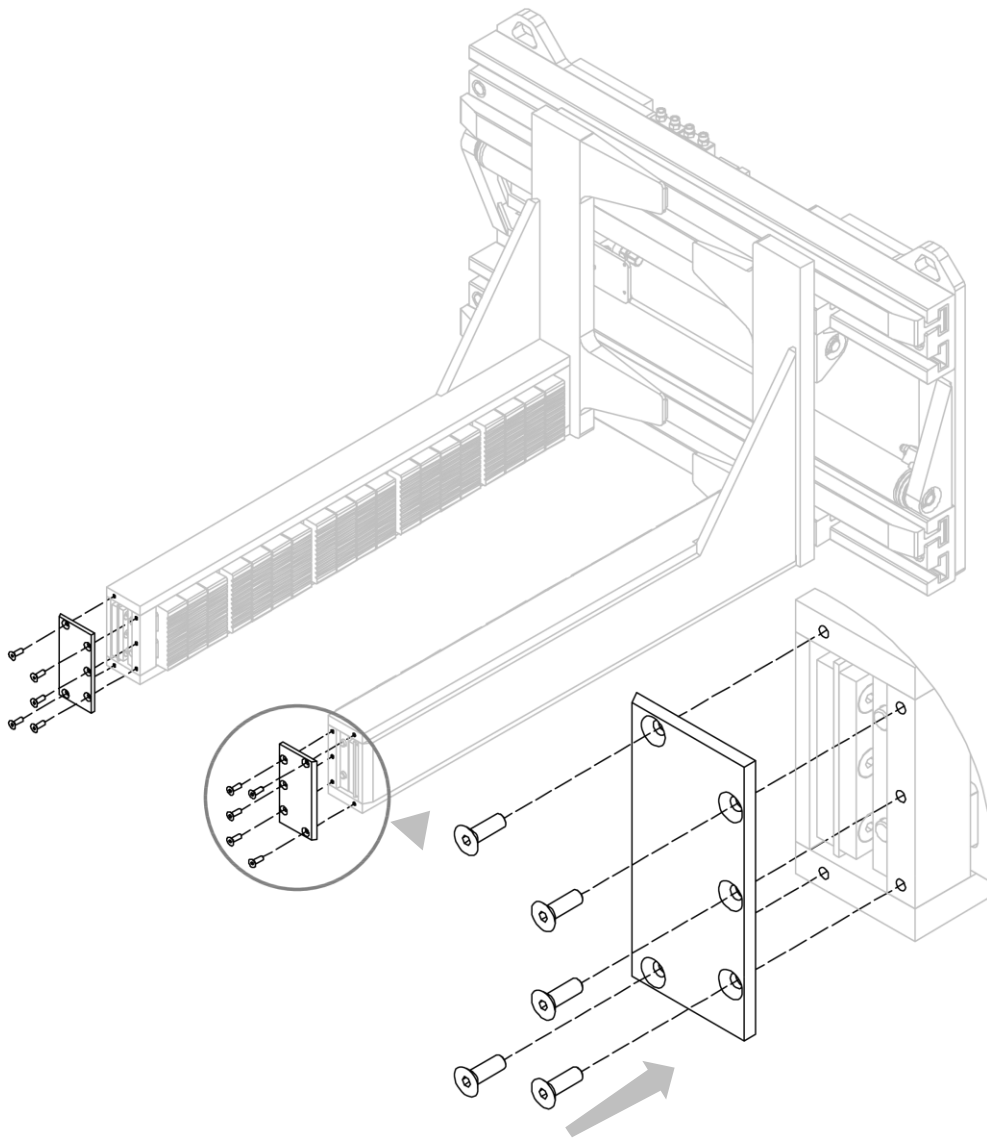

Figure 19
2. Assemble the covers using the associated bolts (see *Figure 19*).